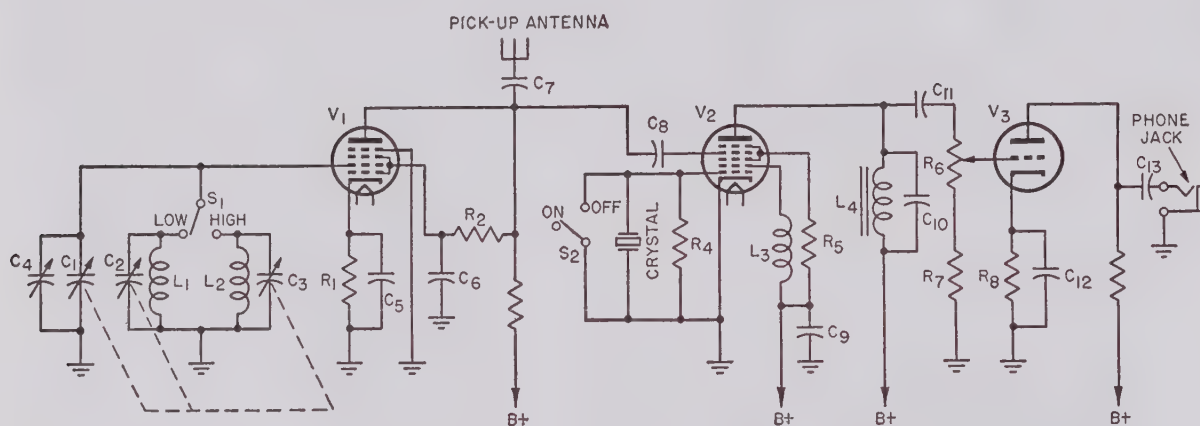

Figure 10 Basic practical circuit of heterodyne frequency meter.
- (1) A basic circuit of the heterodyne frequency meter is shown in figure 10.